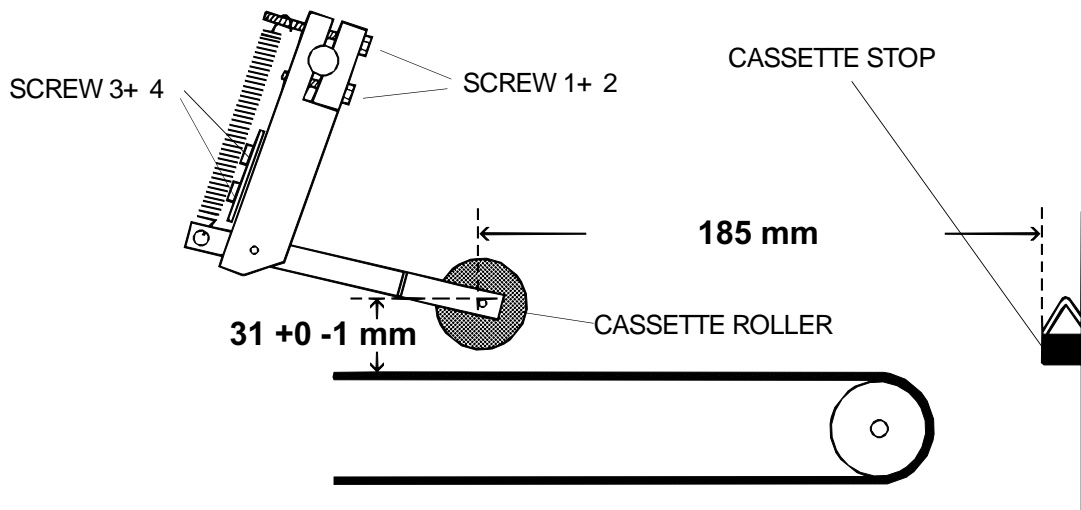

figure 3
- 14.** Check adjustment of CASSETTE ROLLER. See figure 3.